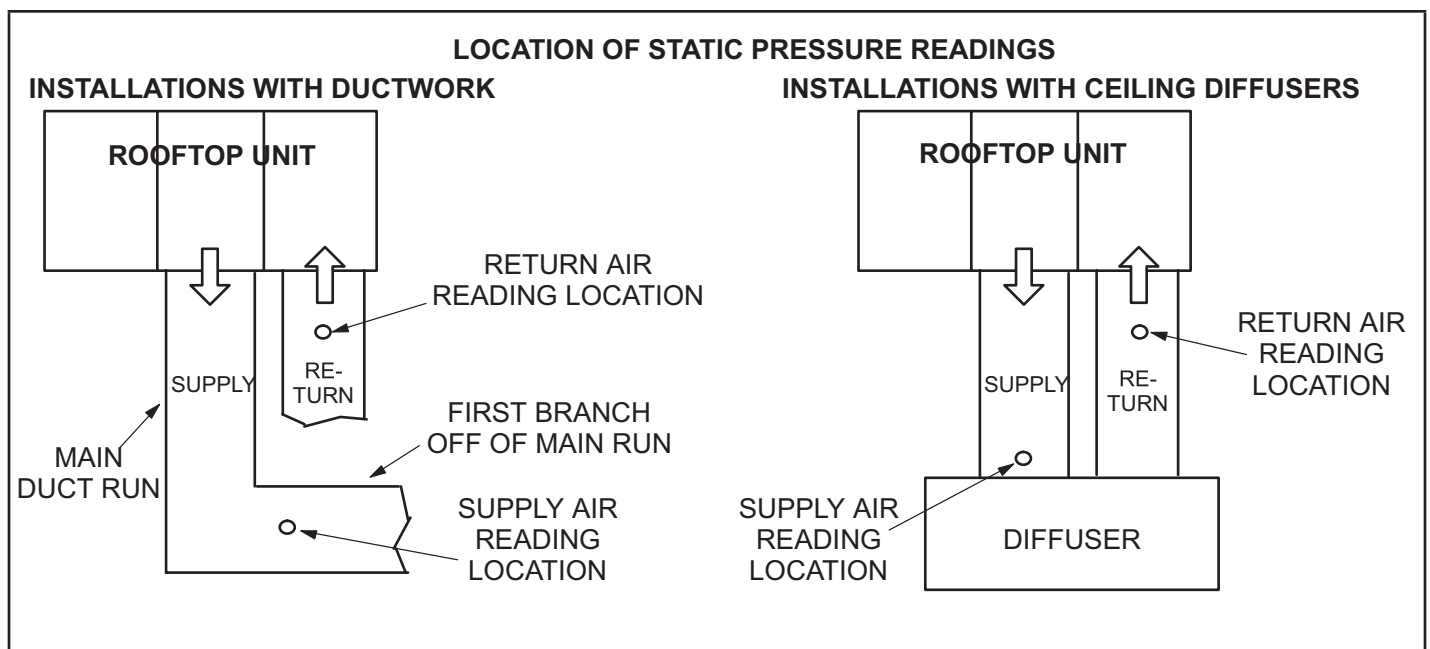

FIGURE 13
- 2 - With all access panels in place, measure static pressure external to unit (from supply to return). Blower performance data is based on static pressure readings taken in locations shown in FIGURE 13.